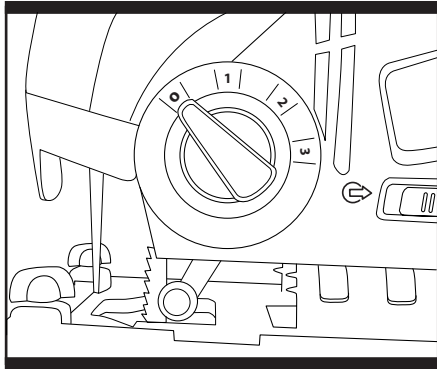

Fig. 6
6. Pendulum action switch adjustment (Fig. 6)